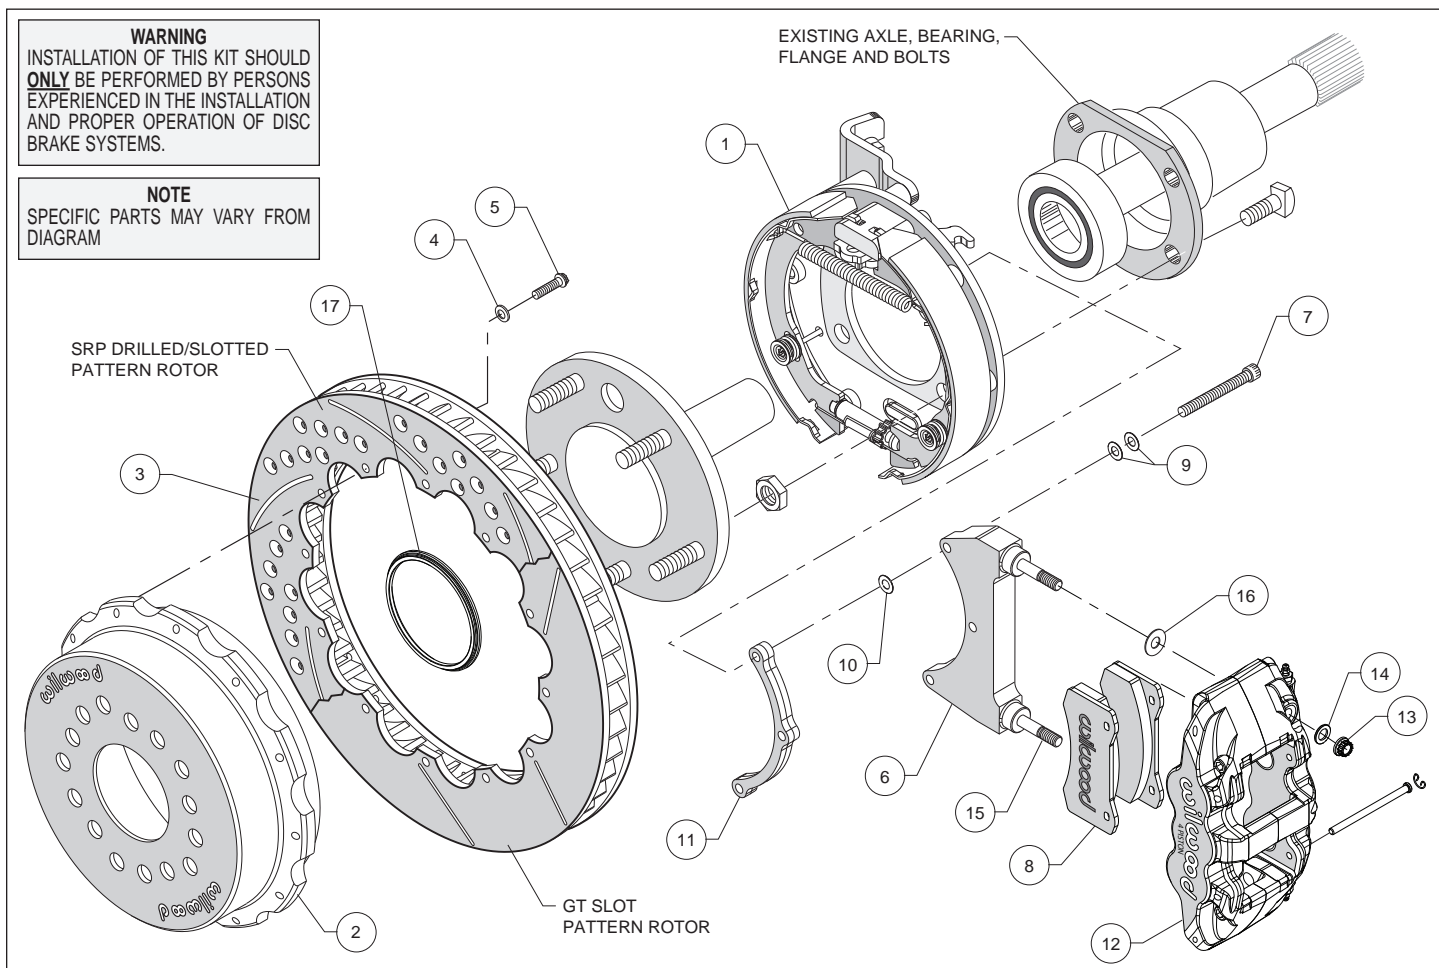

Figure 1. Typical Installation Configuration
- Slide the rotor registration adapter (17) onto the axle register on the axle flange with the smaller O.D. facing toward the rotor/hat (2). Align the correct hole pattern in the hat with the stud pattern on the axle flange. **NOTE:** *Some OEM and aftermarket axles come with stud sizes larger than 0.50" diameter.* Verify stud size and have a qualified machine shop drill the hats to the correct size, if necessary. Slide the hat/rotor assembly (2 and 3) over the wheel studs covering the bracket kit assembly (1) and against the axle flange face. Check to be sure the hat seats squarely against the hub. Install three lug nuts (finger tighten) to keep the rotor/hat assembly in place while continuing with the installation.
- **NOTE:** *Please reference the caution statement at the beginning of the assembly instructions.* The caliper mounting bracket assembly (6) should be installed first with clean, dry threads on the mounting bolts (7). Install the bracket from the rear side of the bracket kit assembly (1) by sliding bolt (7) through two flat washers (9), bracket (6), shim washer (10) and finally through the spacer (11), see Figure 1. **NOTE:** *End of bolt should not exceed inside face of insert. The bracket must tighten squarely against the back side of the bracket kit assembly (1).* Inspect for interference from casting irregularities, machining ridges, burrs, etc. Use one thin shim (10) between the bracket (6) and spacer (11) during initial trial fitting.
- Lubricate caliper mounting studs and nuts with lightweight oil. Install one washer (16) over each pre-installed stud (15) on the radial mount bracket (6). Slide the caliper (12) in place over the studs and rotor, then install the washer (14) and lock nut (13) to hold the caliper in place. The caliper bleed screws should be pointing up. Snug the lock nuts (13) and check that the rotor (3) is centered in the caliper (12). Add or subtract .015" shims (10) as necessary between the caliper mounting bracket (6) and the spacer (11) to center the caliper (12).
- Remove the two pad retaining pins from the caliper (12) by carefully popping out the pin retaining clips and sliding out the pins. Insert the brake pads (8) into the caliper from the bottom, Figure 1. With the friction material facing the rotor, secure the brake pads in place with the pad retaining pins and clips. Reinstall the caliper onto the caliper mounting bracket and temporarily tighten the lock nuts. Check that the top of the brake pad is flush with the outside diameter of the rotor. If not, adjust by adding or subtracting shims (16) between the caliper and the bracket.
- Adjust the parking brake shoes outward (using a drum shoe adjustment tool available at your local auto parts store) while spinning the hat (2) until a slight drag is felt against the hat/drum. Remove the lug nuts that were holding the hat/rotor in place. Install the wheel and lug nuts. Check to see that the wheel rotates freely without interference.
- Once all clearances have been checked, remove the wheel, caliper, hat/rotor from the bracket kit assembly (1). Secure the caliper mounting bracket (6) to the bracket kit assembly (1) using red *Loctite*[®] 271. Torque bolts (7) to 180 **in-lb**. Reinstall the hat/rotor assembly and again use lug nuts to hold it in place. Reinstall the caliper, torque the caliper nuts (13) to 47 ft-lb.
- **NOTE:** *Clevis and cable kits which attach to the parking brake assembly are not included in the Wilwood parking brake kit.* Wilwood offers a generic style parking brake cable kit, P/N 330-9371 for this application which can be ordered separately from your local Wilwood dealer or by calling Wilwood customer service at (805) 388-1188.